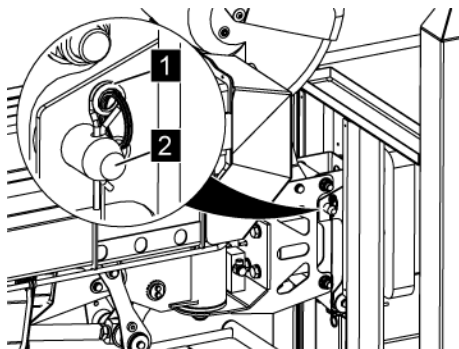

Fig. 152: Split pin
5. → Pull the split pin (Fig. 152/1) out of the basket bolt (Fig. 152/2).